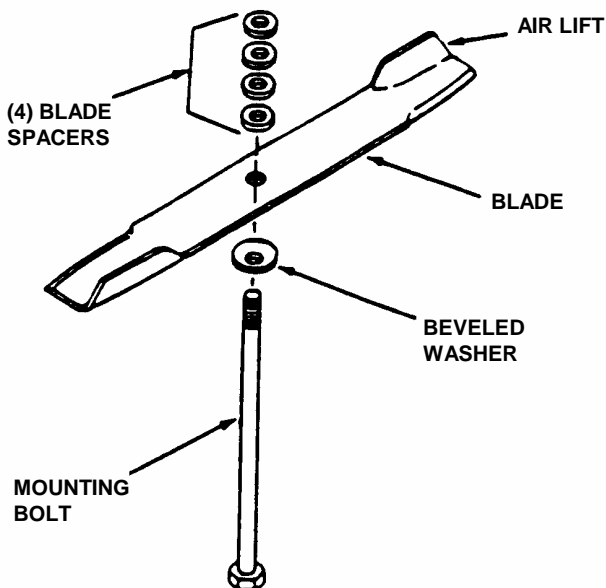

FIGURE 4.6
1. Remove blade. See Figure 4.6.
5. Reinstall blade. See Figure 4.6. Torque blade mounting bolts to recommended range of 70 to 80 ft. lbs.